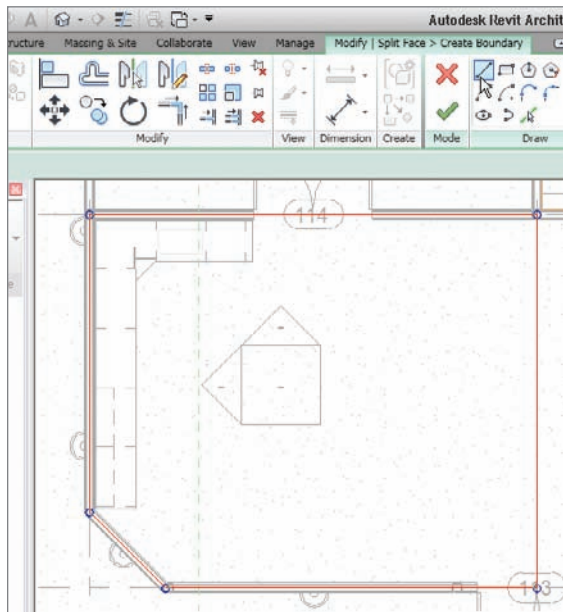

FIGURE 9.68 Drawing the perimeter of the alternate floor material
3. Click the Line button on the Draw panel, and draw a continuous line around the area, as shown in Figure 9.68.